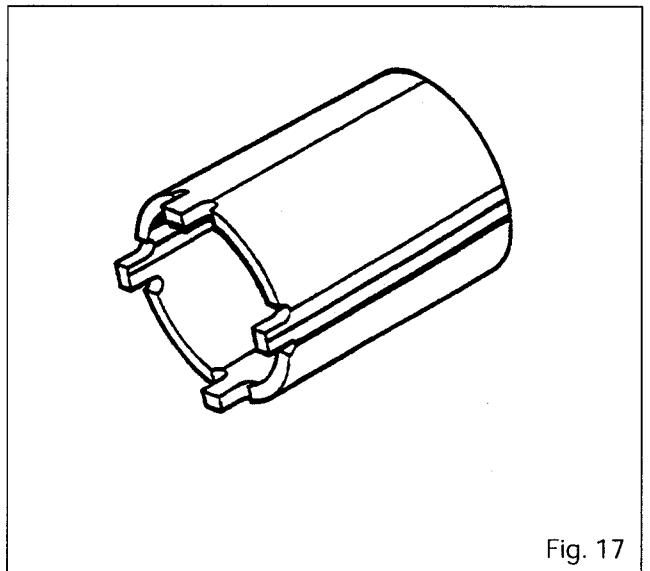

Fig. 17
**3378028M1 - Socket for ring gear carrier nuts (axles AG 125 and AG 155) (Fig. 17)**